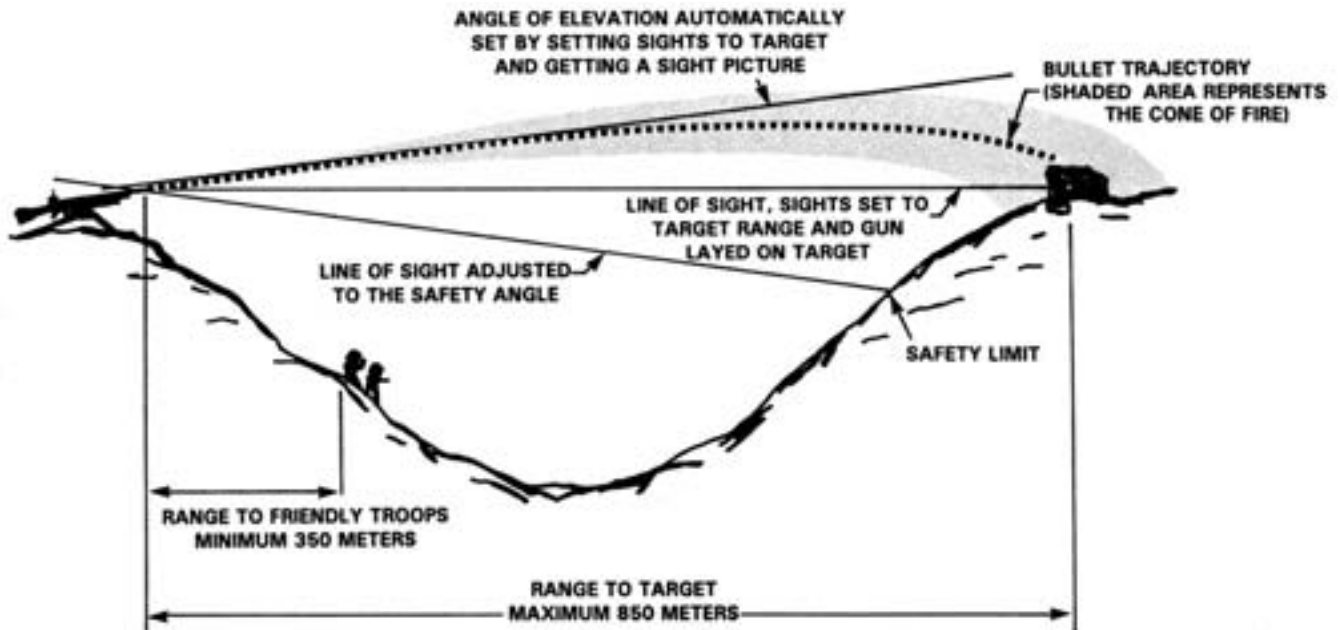

Figure 6-25. Gunner's Rule.
(1) **Gunner's rule.** The gunner's rule is used to determine the safety limit when the range to the target is 850 meters or less and friendly troops are at least 350 meters in front of the gun position (see figure 6-25). The gunner applies this rule unless the safety limit has been determined and announced by the platoon or section leader. The rule is as follows: